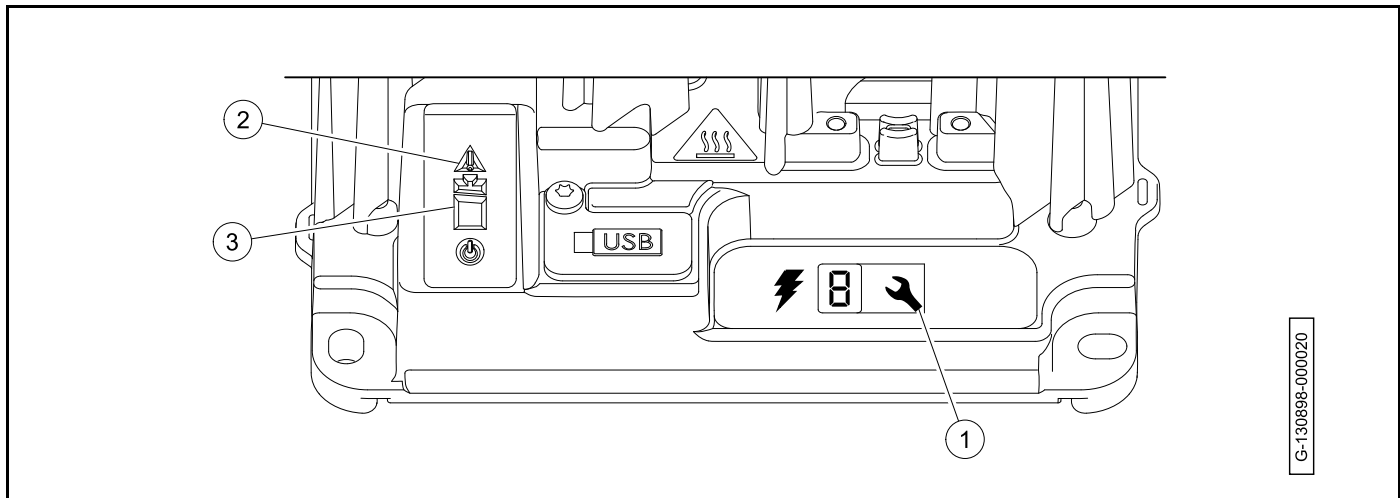

Figure 15-14 Algorithm Change
2. Push and hold the Select Charge Profile button (1) (**Figure 15-14, Page 15-18**).